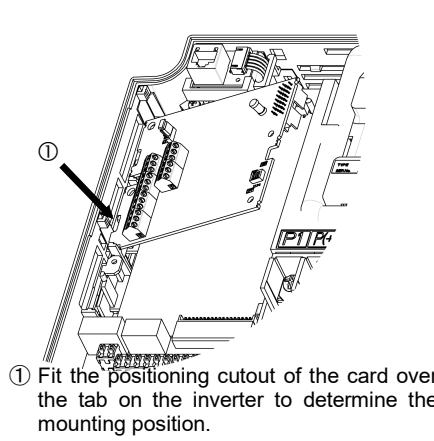
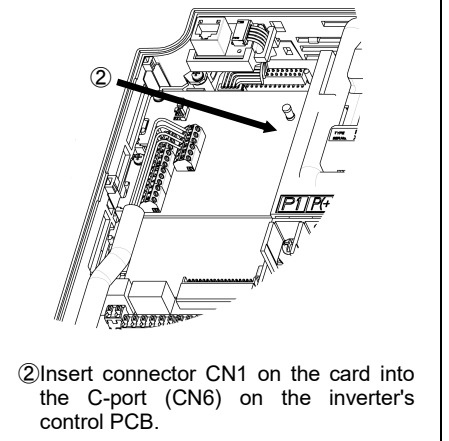

Figure 2.2 Mounting PG Interface Card
Figure 2.3 Mounting Completed
- (2) Insert connector CN1 on the back of the PG interface card (Figure 1.2) into the C-port (CN6) on the inverter's control PCB. Then secure the card with the four screws that come with the card. (Figure 2.3)
Note Check that the positioning cutout (Figure 1.1) is fitted on the tab (① in Figure 2.2) and connector CN1 is fully inserted (② in Figure 2.3). Figure 2.3 shows the PG interface card correctly mounted. Do not connect the interface card to the ports other than C-port. Doing so may damage the card.
- (3) Perform wiring to the PG interface card.